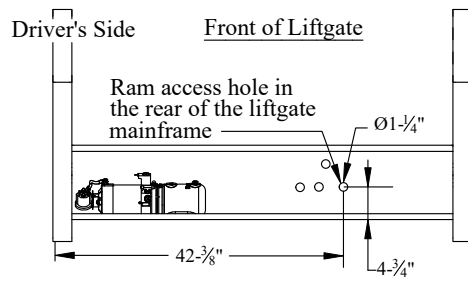

Figure 12: Spare tire access.
2. **Remove and Discard** the black plastic plug(s) from the mainframe in the location shown (Figure 12).